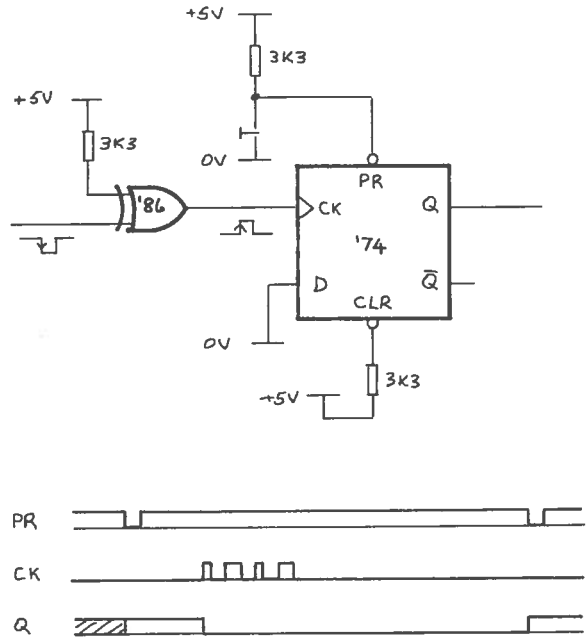

Fig.5 - D-type flip flop, signals and circuit
The edge-sensitive input is called CLOCK (CK). The onset of the leading edge from the sound switch triggers the flip flop which causes the Q output to equal the D input. As the D input is tied low Q becomes low also (Fig.5).